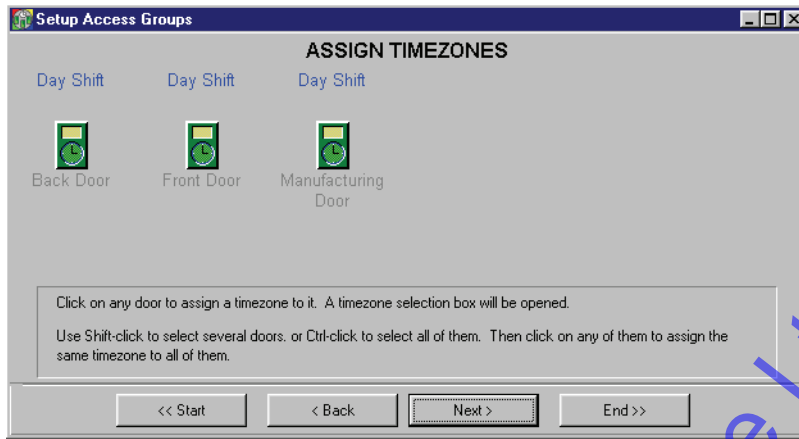

Figure 3-36: Access Group Door/Timezone Assignments
- When complete, the access group window should look similar to Figure 3-36 on page 48 of this section.